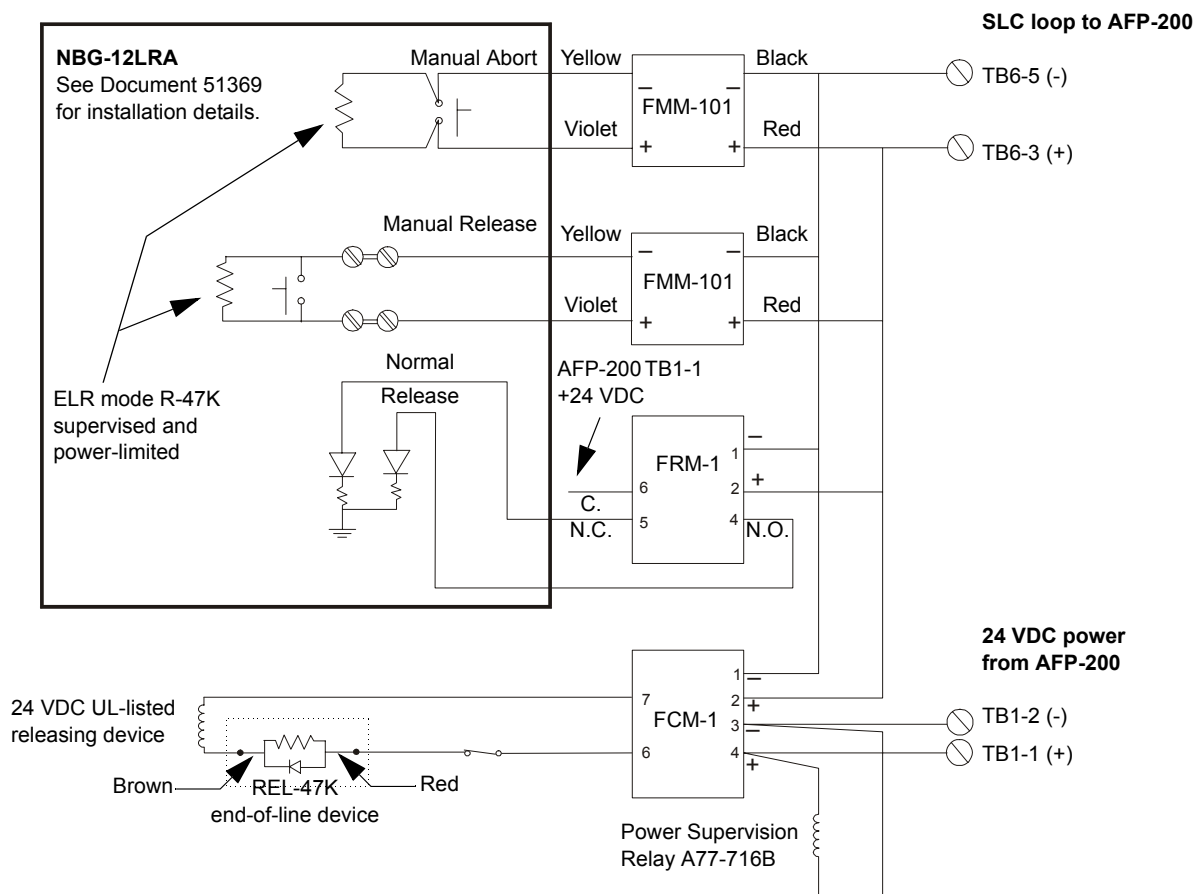

Figure 146 Typical Connections for an Agent Release-Abort Station
- Connecting the control panel to an agent release abort station (Figure 146 on page 155)
Figure 146 shows typical connections for wiring an NBG-12LRA Agent Releasing Abort Station to the AFP-200. All wiring for releasing circuits is supervised against opens and shorts.
2. Connect the end-of-line device as shown in Figure 146.
- Connect the end-of-line device as shown in Figure 146.